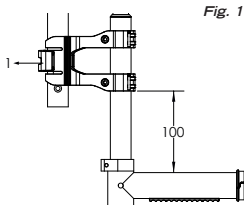

Fig. 10.3
- To adjust the height of the push handles pull on the lever (1) to open the clamp (Fig. 10.3).
- Set the height and push the lever (1) to close the clamp.